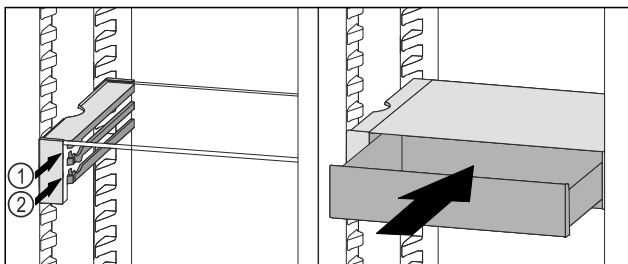

Fig. 135
- Place the VarioSafe drawer behind the stoppers on desired rib Fig. 135 (1) or Fig. 135 (2).